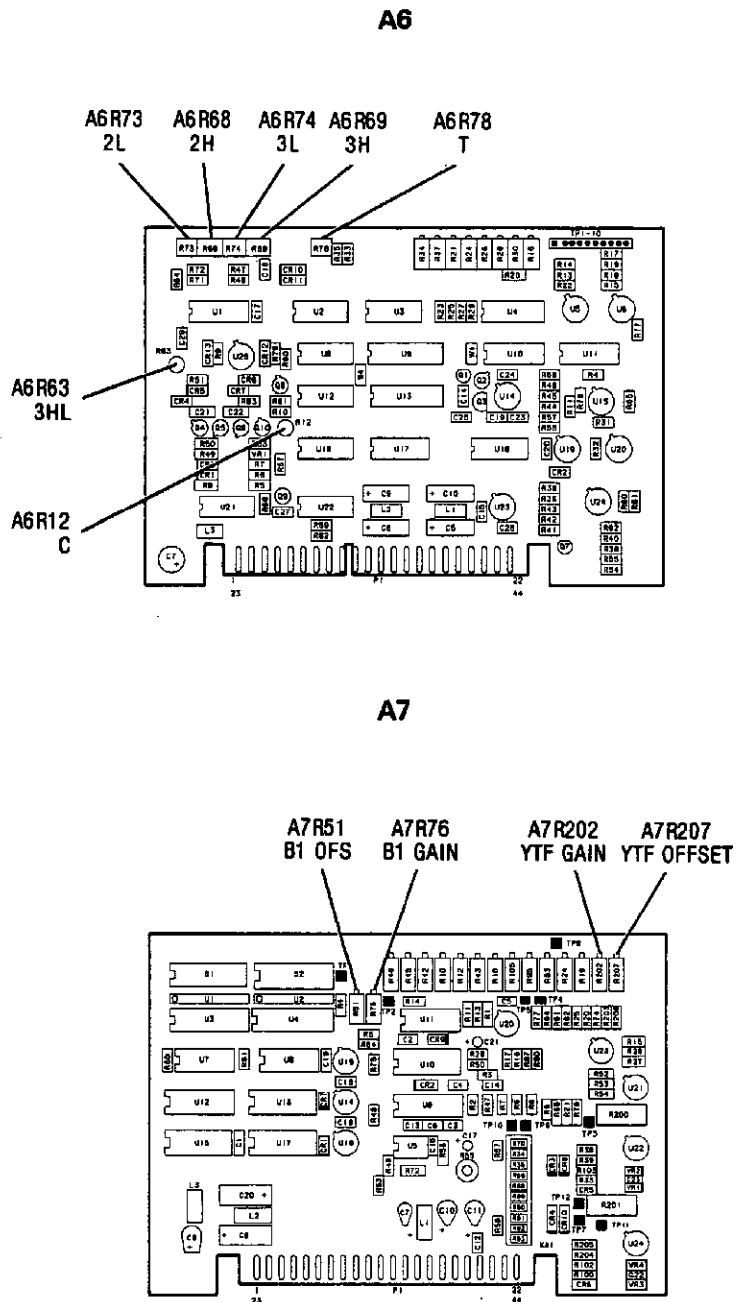
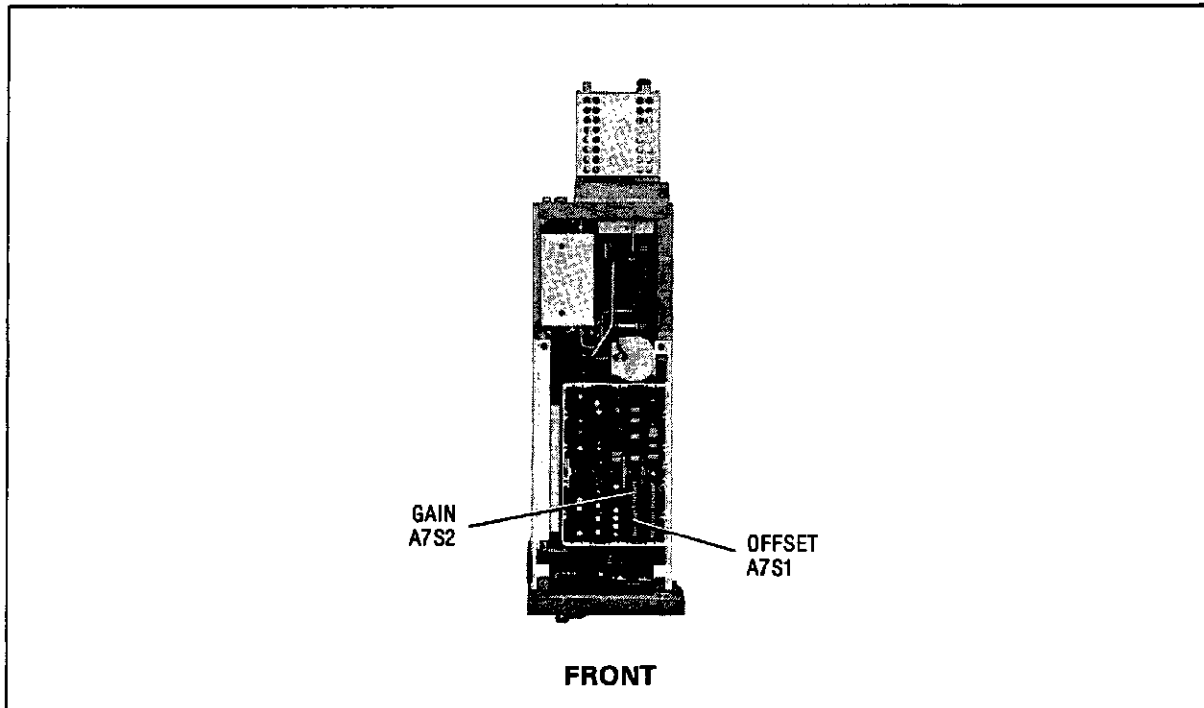
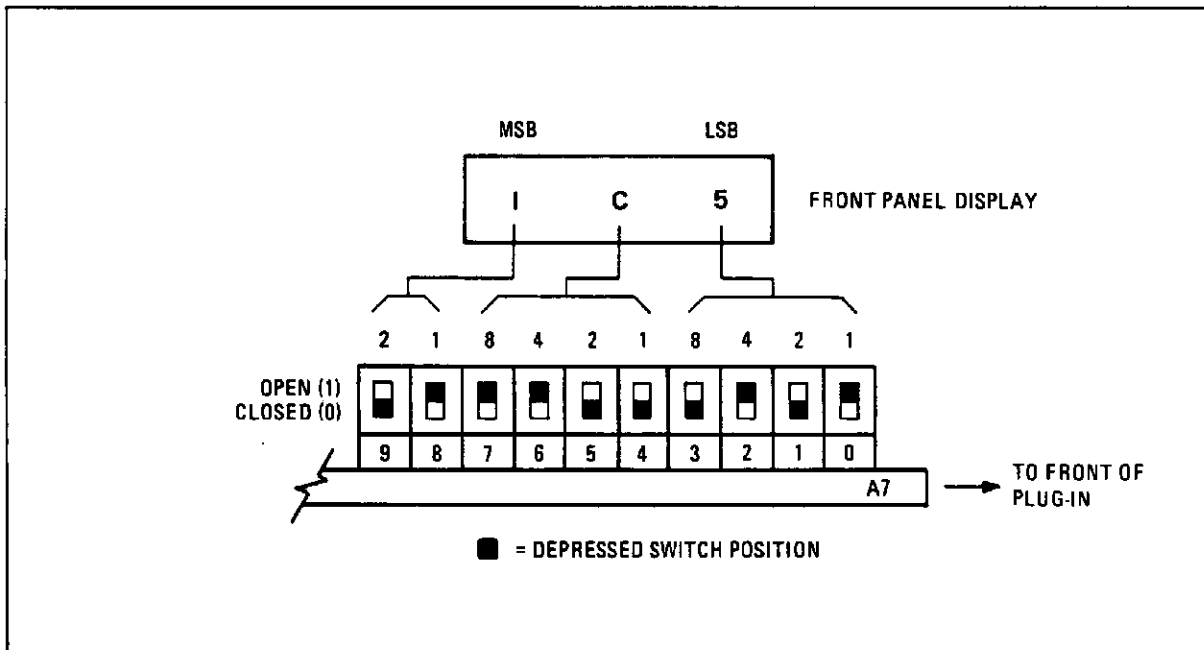

Figure 5-18. Slow Speed YTM/YTF to YO Tracking Adjustment Locations
Figure 5-19. YTM/YTF to YO Tracking Calibration Switch Locations
Figure 5-20. YTM/YTF to YO Tracking Calibration Switch Configuration
5. Preset **A6R63 (3HL)** to mid-range. Refer to Figure 5-18 for adjustment locations.
6. Preset **A6R78 (T)** and **A6R12 (C)** one quarter turn from the full counterclockwise position.
8. Enter the number displayed on the Model 83592C **POWER DISPLAY** into **A7S1** as shown in Figure 5-20. Refer to Figure 5-19 for the switch location.
10. Enter the number displayed on the Model 83592C **POWER** display into **A7S2** as shown in Figure 5-20. Refer to Figure 5-19 for the switch location.